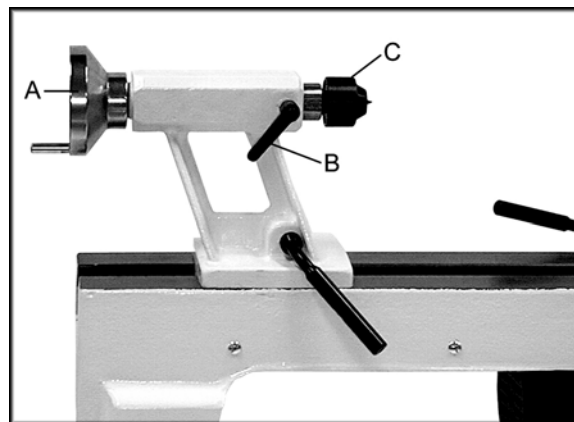

Figure 13
1. Loosen tailstock lock handle (B, Figure 13).
2. Turn the tailstock handwheel (A, Figure 13) counter-clockwise until the live center (C, Figure 13) ejects from the spindle. NOTE: Hold the live center in your other hand to prevent it from falling.